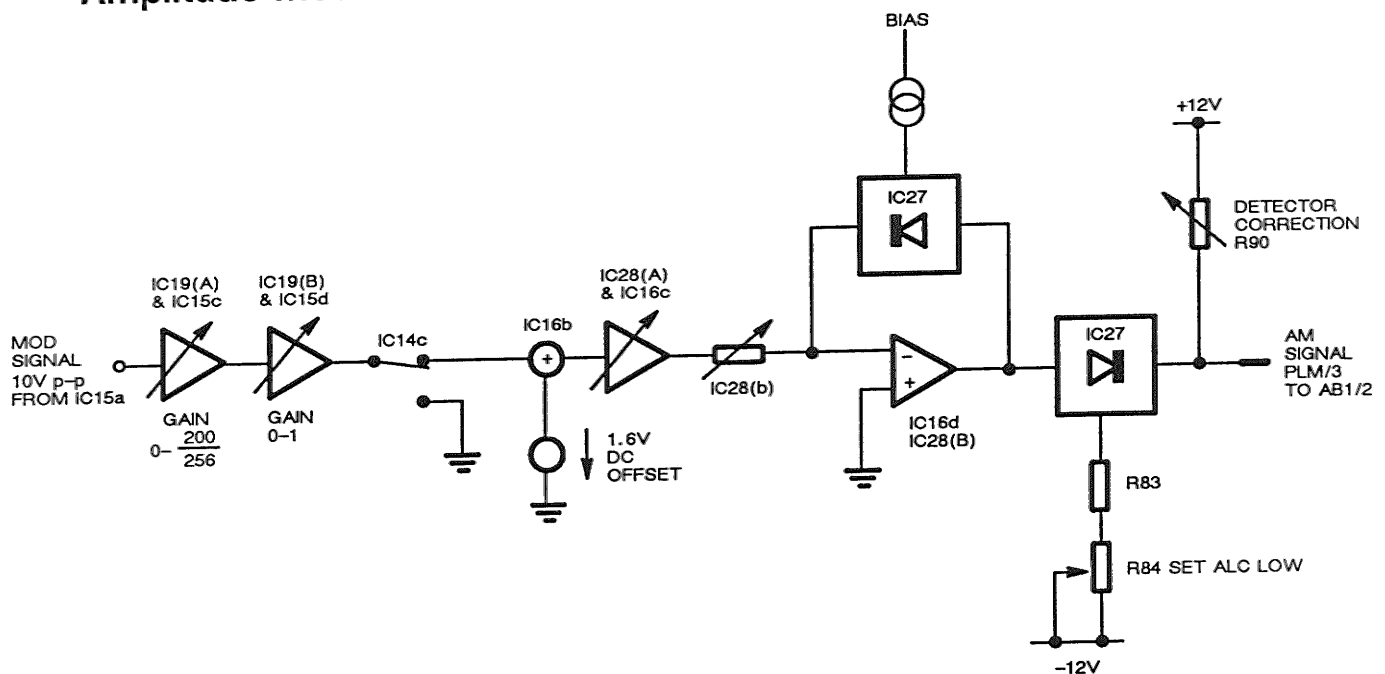

Fig. 4-15 AM signal path >62.5 MHz (A2/2)
128. The series path shown in Fig. 4-15 requires four sets of data to provide the correct signal. IC19(A) is loaded with a number proportional to the AM depth requested and IC19(B) has AM calibration data entered. IC28(B) will contain calibration data for the RF level and finally IC28(A) holds a number equal to the RF output voltage in mV (described in later paragraphs).